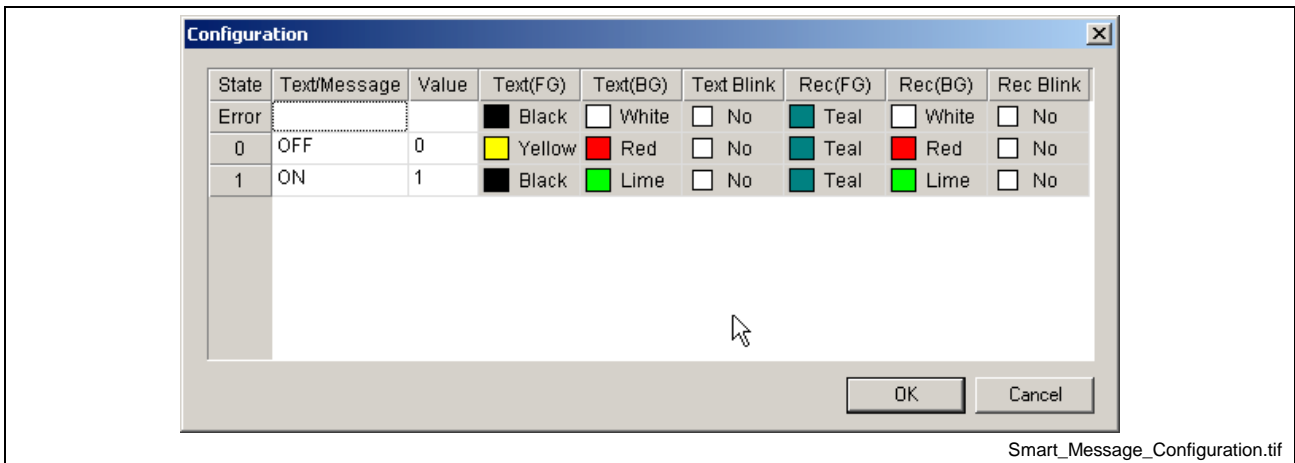

Fig.5-21: Configuration of the Smart Message object
4. Click button "**Config...**" in dialog **Object Properties** and do the following settings in dialog **Configuration**. See "Fig.5-21: Configuration of the Smart Message".